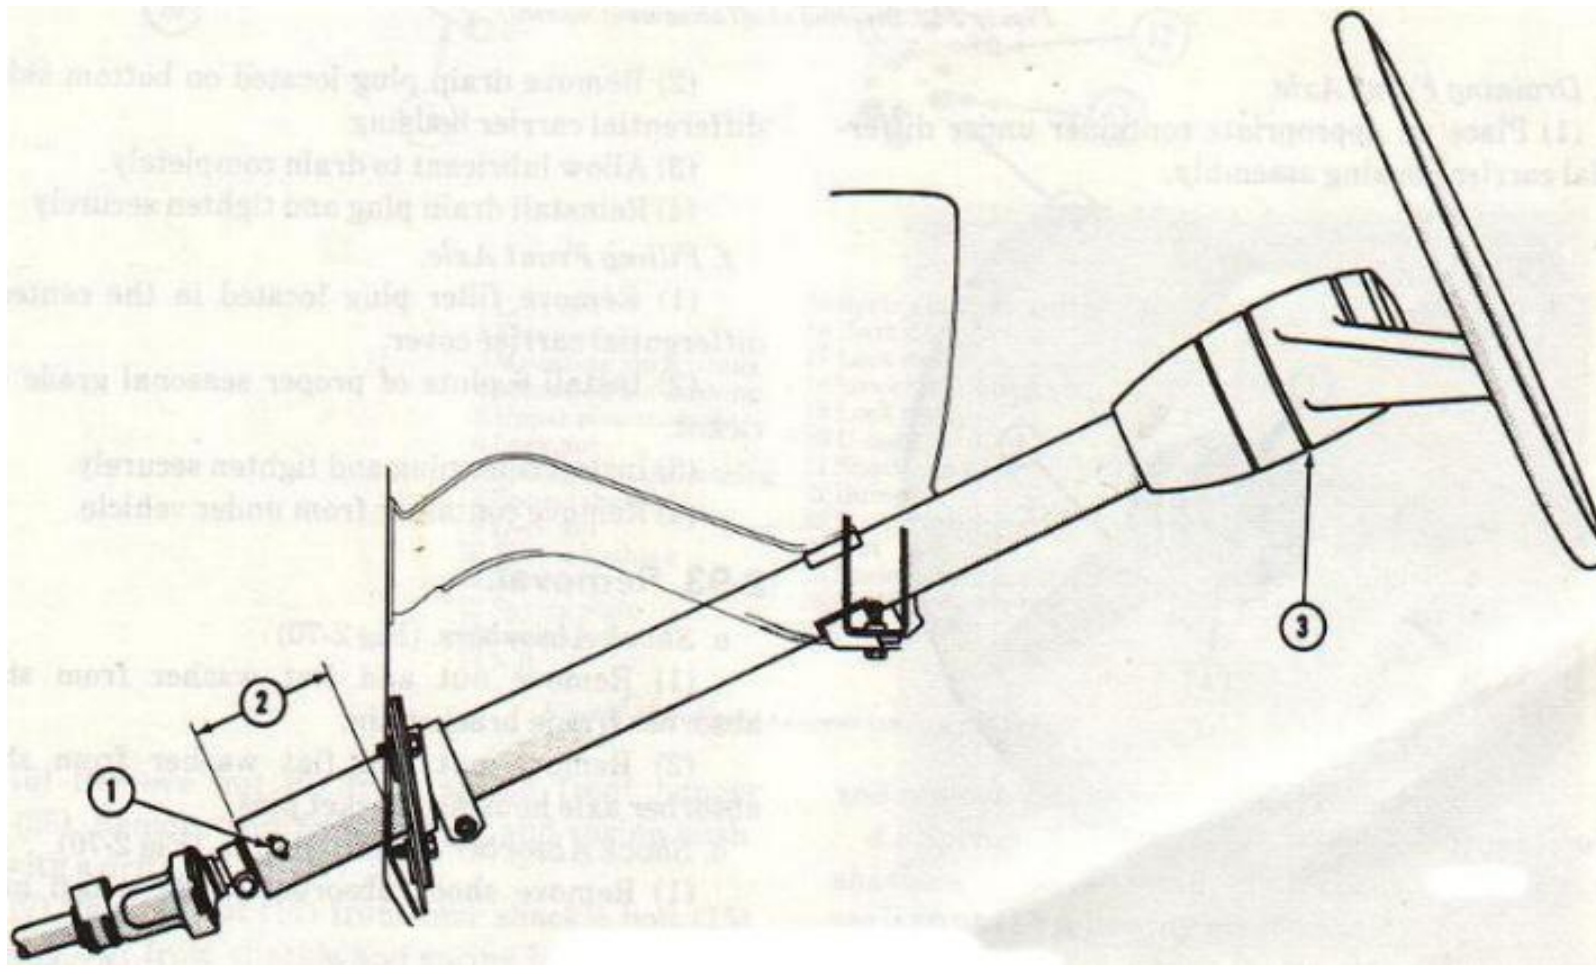

Figure 2.67. Steering column adjustments.
(3) Steering column adjustments. (Fig 2-67)